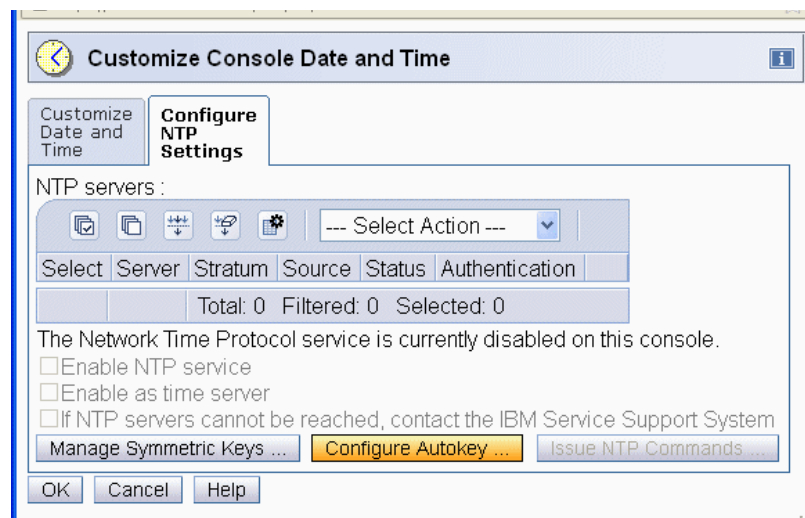

Figure 1-8 Manage Symmetric Keys in Configure NTP Settings
1. From the Configure NTP Settings tab click **Configure Autokey** (Figure 1-8).